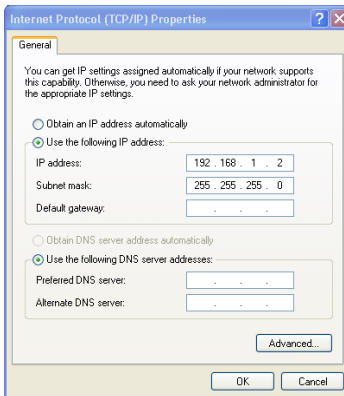

Figure 33: Internet Protocol (TCP/IP) Properties Window
6. Select Use the following IP Address, and fill in the details as shown in Figure 33. You can use any IP address in the range 192.168.1.1 to 192.168.1.255 (excluding 192.168.1.39) that is provided by your IT department.